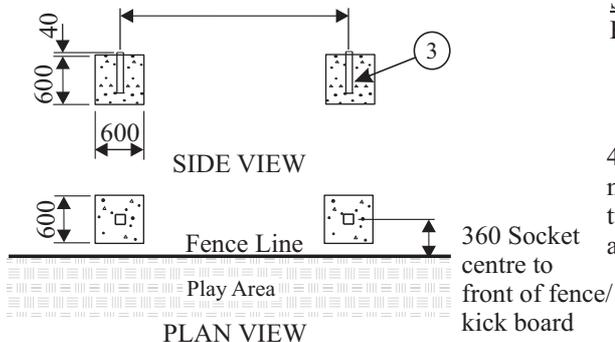

Fig.2a
1 Dig holes 600x600 square x 600mm deep at centres shown in Fig 2a. Position the sockets (3) 360mm centrally back from the front (court side) of the fence/kick board. Concrete the sockets in leaving approx 40mm from top of concrete to ground level (for turf). Use a spirit level to make sure that the sockets are truly vertical and support until set. Replace the turf extracted when the concrete has cured (allow the concrete to set before assembling the rest of the goal).